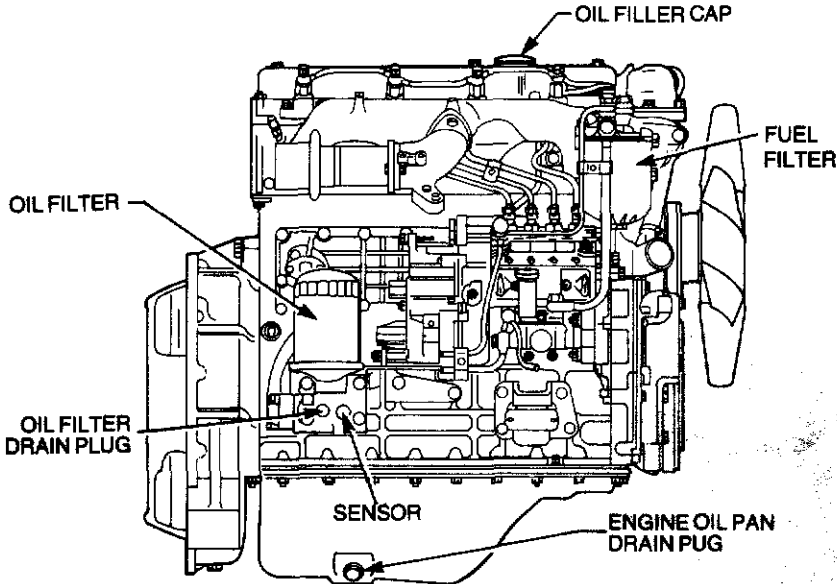

Figure 3-4 Engine — right hand side
**321.** Run the engine until the engine coolant reaches normal operating temperature then shut down the engine. Remove the engine oil pan drain plug (see Fig. 3-4) and drain the oil into a suitable receptacle before the engine cools. Remove the drain plug from the oil filter adapter (see Fig. 3-4) and drain the oil into a suitable receptacle. Fit new sealing washers to both drain plugs and install the drain plugs in their respective positions.